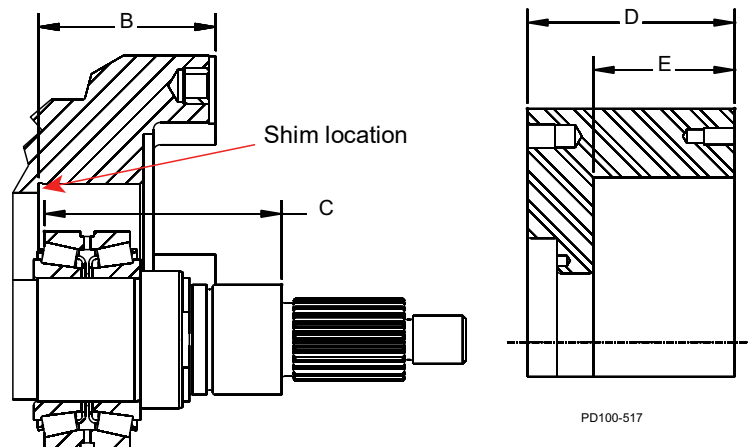

Figure 51 - Measurements for calculating required shims
Table 6: Callouts for Figure 51
- If necessary, calculate the required shims for the replacement shafts, bearings or both by referring to Figure 51; carry the measurements and calculations to three decimal places (i.e. 0.059).